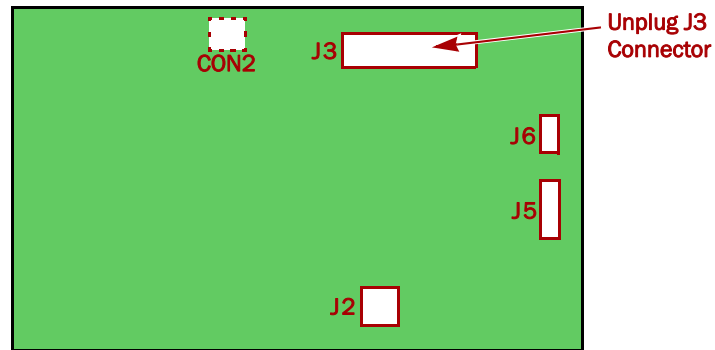

Figure 1-5: Location of the J3 Front Panel PWA Connector (Rear View)
2. On the back side of the FPA, remove the **J3 connector** at the top of the front panel PWA (Figure 1-5).